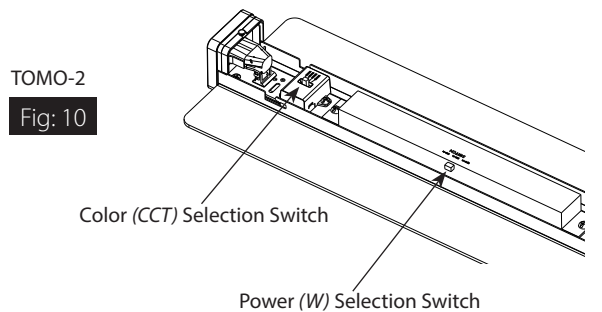

Fig. 10
2. Locate the selector switches inside the **Lens & Tray Assembly** as shown (Fig. 10, 11, 12) for TOMO-2, TOMO-4 TOMO-8. **Note:** TOMO-8 is equipped with two (2) **Color Temperature (CCT)** switches and two (2) **Power (W)** switches.
3. Select **Color Temperature (CCT)** and/or **Power (W)** by sliding the respective switch to the desired value.